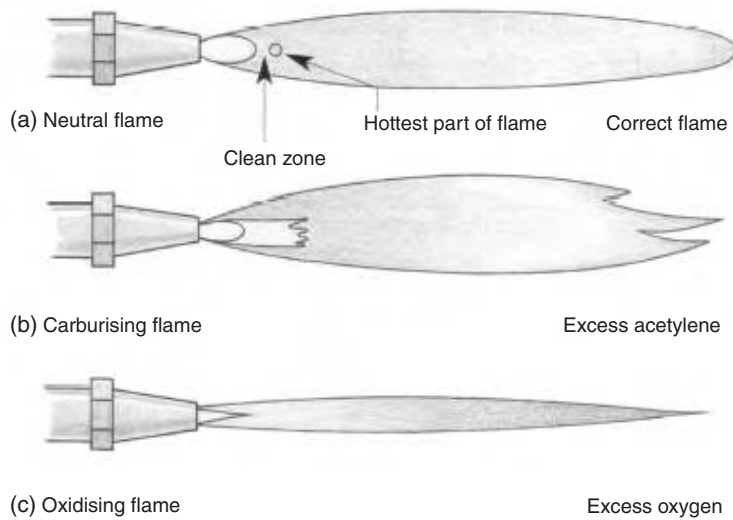

Figure 10.11 Correct flame
Referring to Figures 10.11 (a)–(c), the gases most commonly used for lead welding are oxygen and acetylene. Portable equipment is readily available making in situ work relatively easier.
nozzles from 1 to 5. The working part of the flame is immediately in front of the small cone at the tip of the nozzle when the flame is correctly adjusted, as shown in Figure 10.11(a). At this point the temperature is far in excess of the melting point of lead.
- Turn on the acetylene first, followed by the oxygen to produce a clean neutral flame, as in Figure 10.11(a)
- Avoid excess acetylene as this will give a carburising flame, as in Figure 10.11(b)
- Avoid excess oxygen as this will produce an oxidising flame, as in Figure 10.11(c).